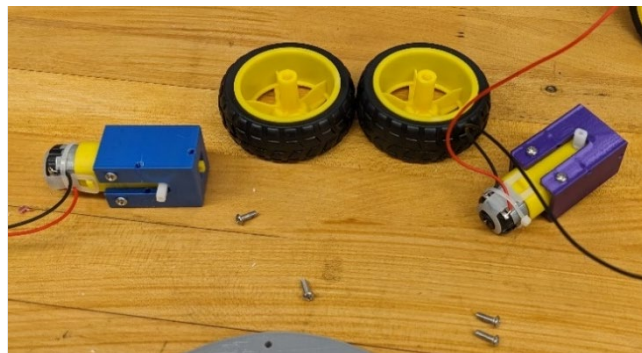

Figure 4: Wheels, Motors, and Screws.
3. Get the left and right 3d printed motor mounts and the 2 motors. If not attached, you will need to use two 10 mm (about 0.39 in) M3 machine screws to attach each motor to the motor mount. Make sure that the red and black wires point toward the long-slotted end of the motor mount. Figure 4 shows the right and left motors inserted into the motor mounts with the 10 mm screws. The figure also shows 2 wheels and four 8 mm (about 0.31 in) M3 mounting screws for attaching the motor mount to the base of the robot.